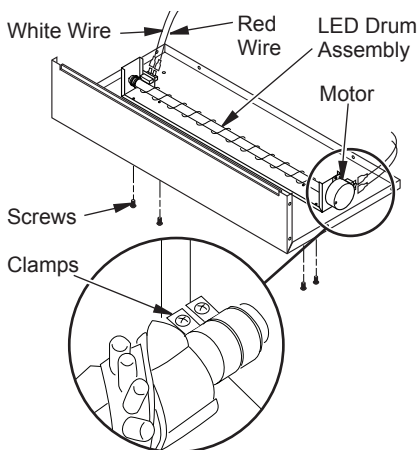

Figure 17 - Flame Generation LED Drum Assembly
8. If motor on assembly fails, loosen clamps (see Figure 17). Remove screws from motor. Hold universal joint while removing motor and discard.